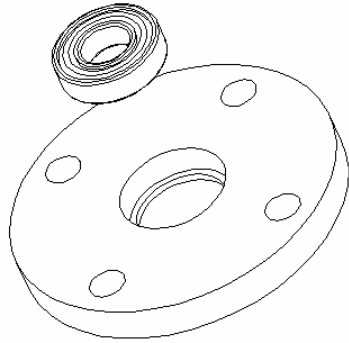

Figure 4a
6. Start on new subassembly as follow: Set bearing R14 inside center hole of Planet Plate Float #004 with larger ID hole facing up as shown in figure 4a.